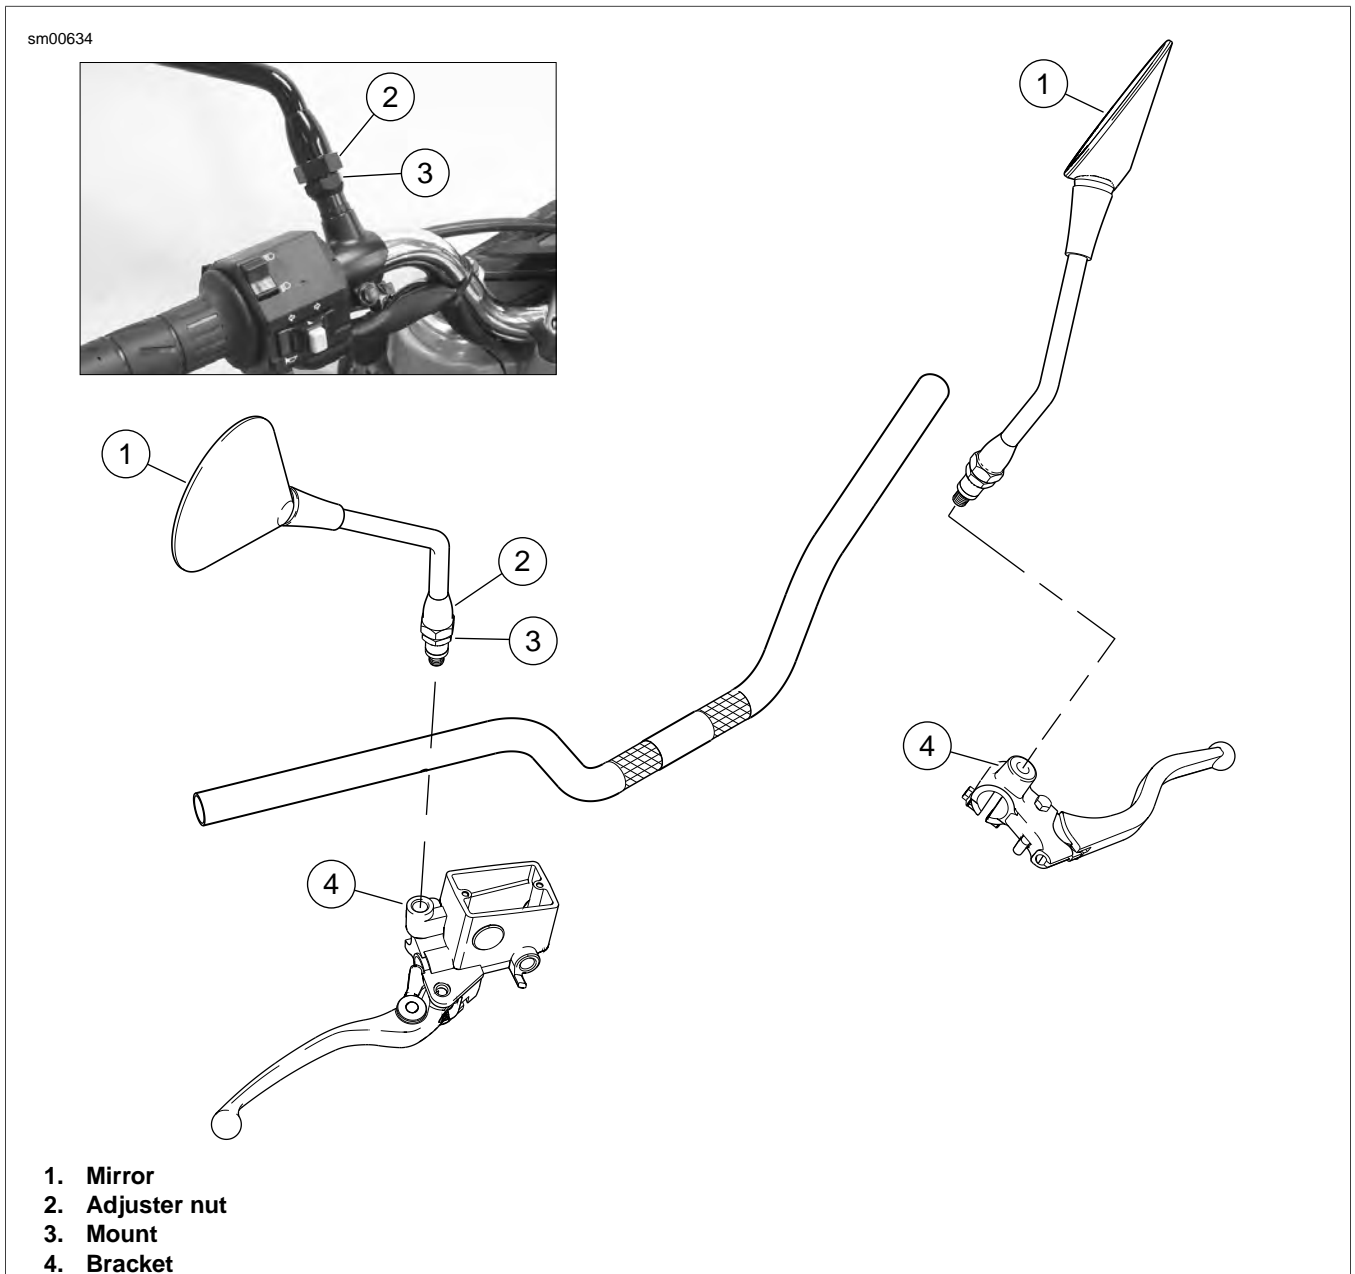

Figure 2-154. Mirrors and Mounting Hardware: Lightning/Ulysses
1. See Figure 2-154. Loosen adjuster nut (2) and remove mirror (1) from mount (3).
2. Loosen mount (3) and remove from bracket (4).
1. See Figure 2-154. Install mount (3) onto bracket (4) and tighten to 20-22 ft-lbs (27-30 Nm).